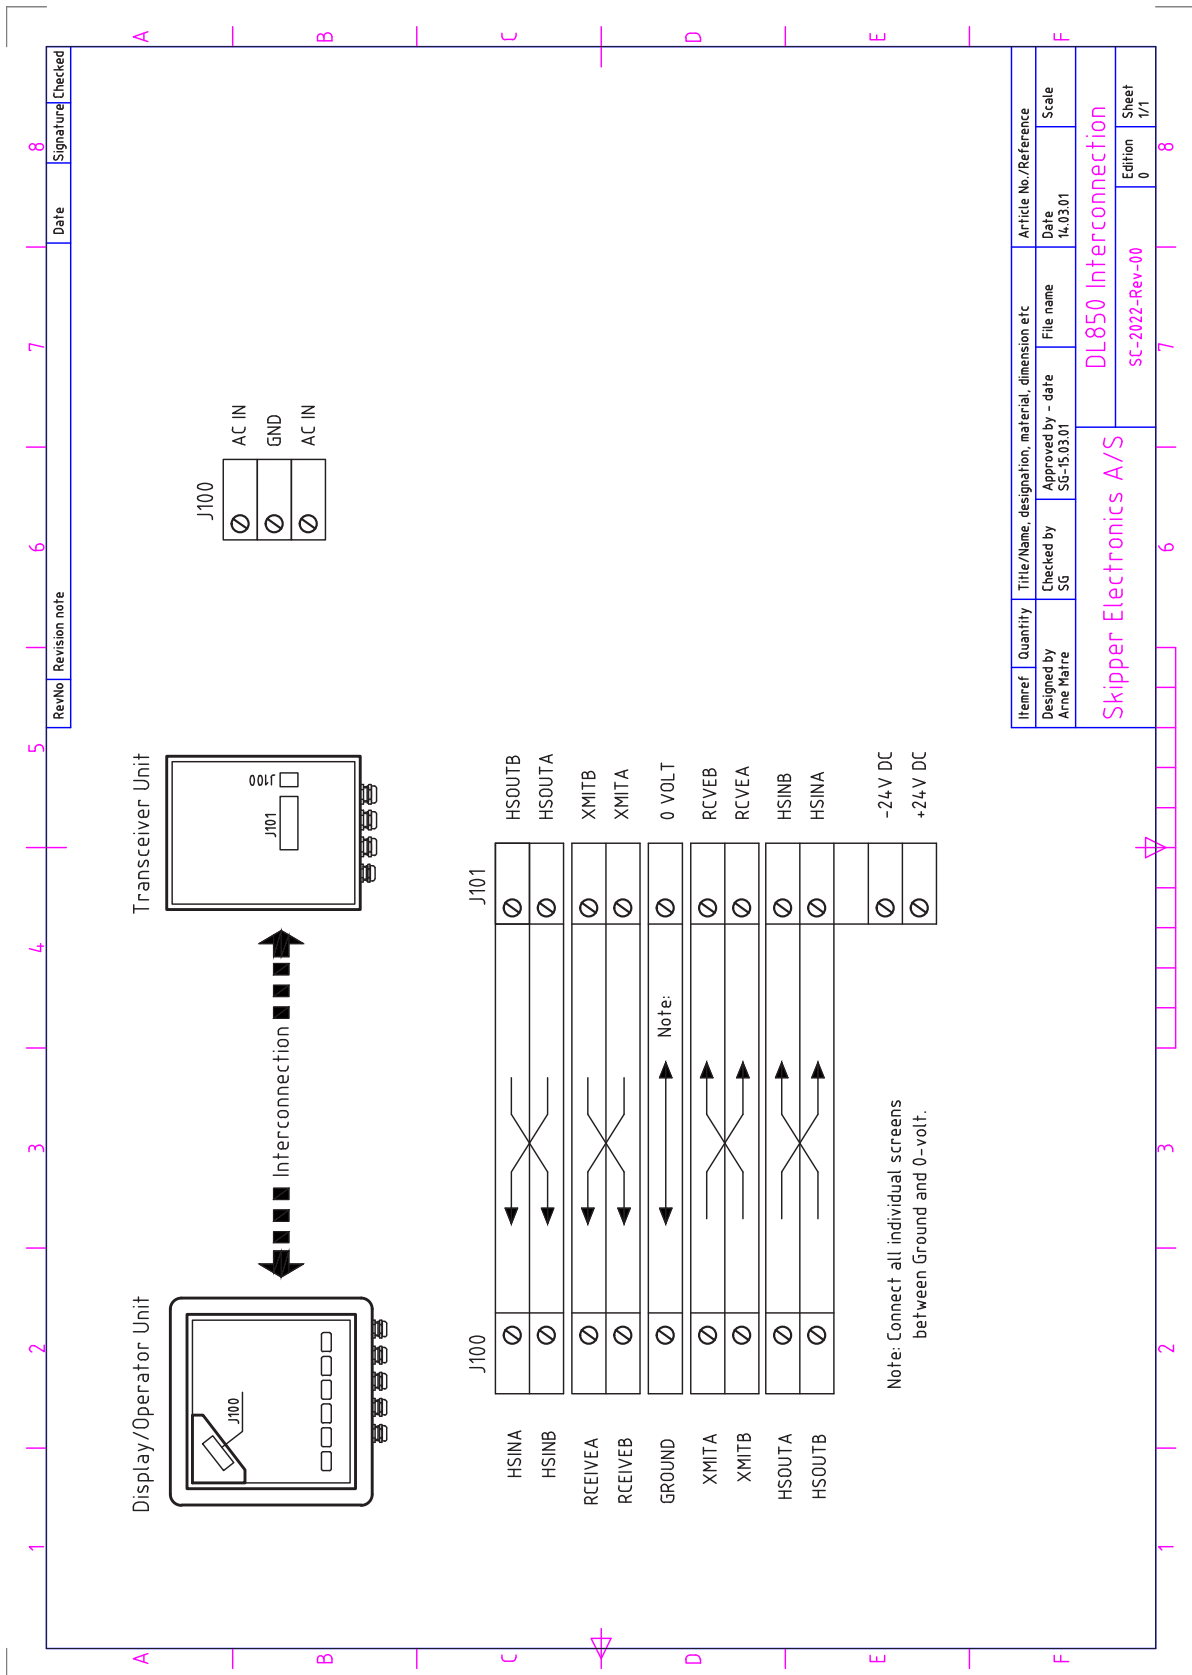

Fig. 10.4. Transceiver unit - operator unit interconnection
- Fig. 10.4. Interconnection diagram between the operator unit and the transceiver unit. See “Operator Unit - Transceiver Unit Interconnection” on page 70.